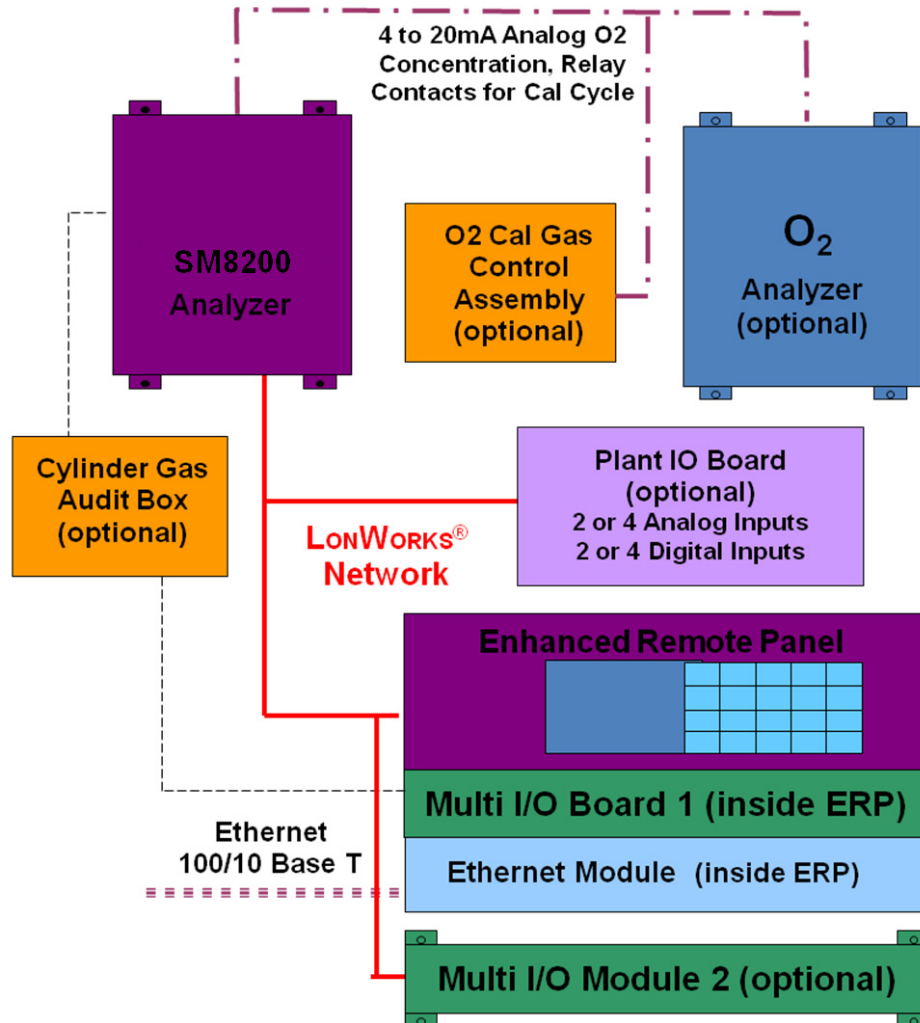

Figure 2-3: System Block Diagram
- ❑ Communication via an FFT10A LON WORKS® network with other system elements (see Figure 2-3: System Block Diagram), such as the Enhanced Remote Panel.